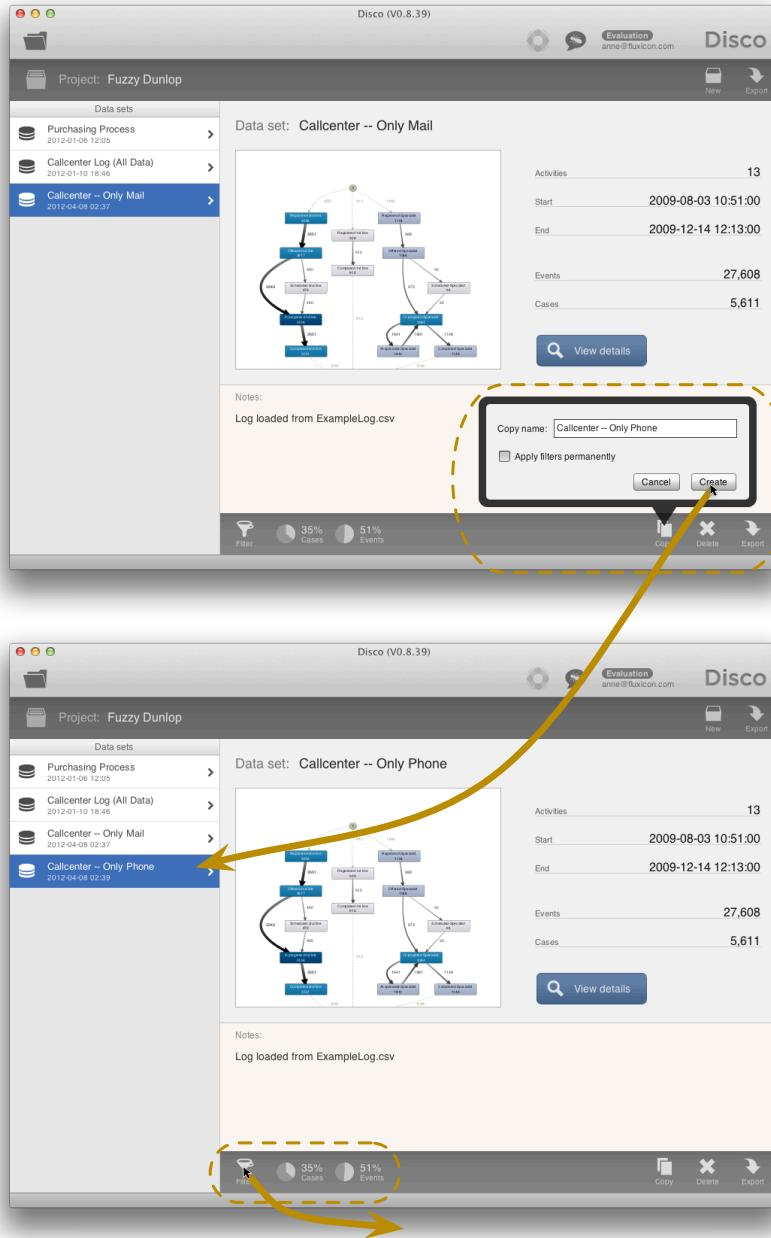

Fig. 6.11. Example Scenario – Step 3: Make another copy for the phone requests.
Step 3: Then, the second copy ‘Callcenter – Only Phone’ is created. Figure 6.11 shows this step.